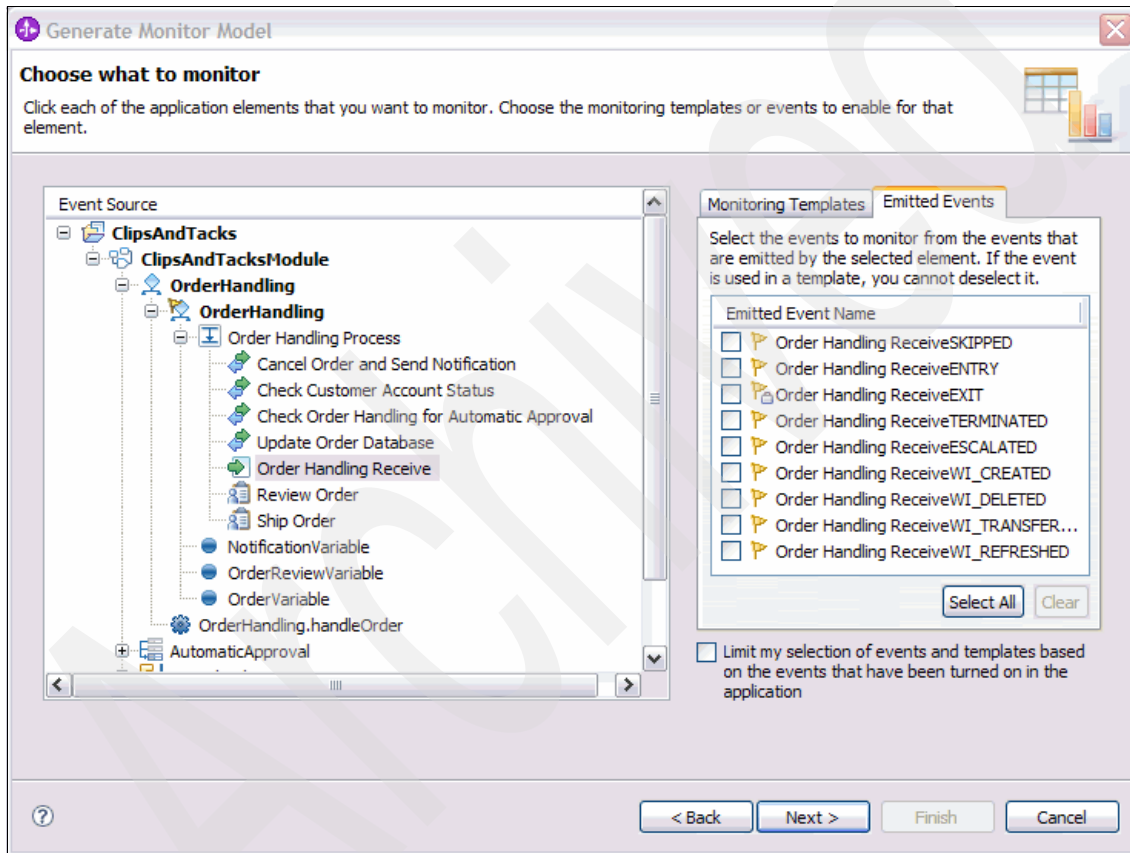

Figure 5-22 Selecting the Order Handling Receive activity emitted events
- ii. Click the **Emitted Events** tab (Figure 5-22).